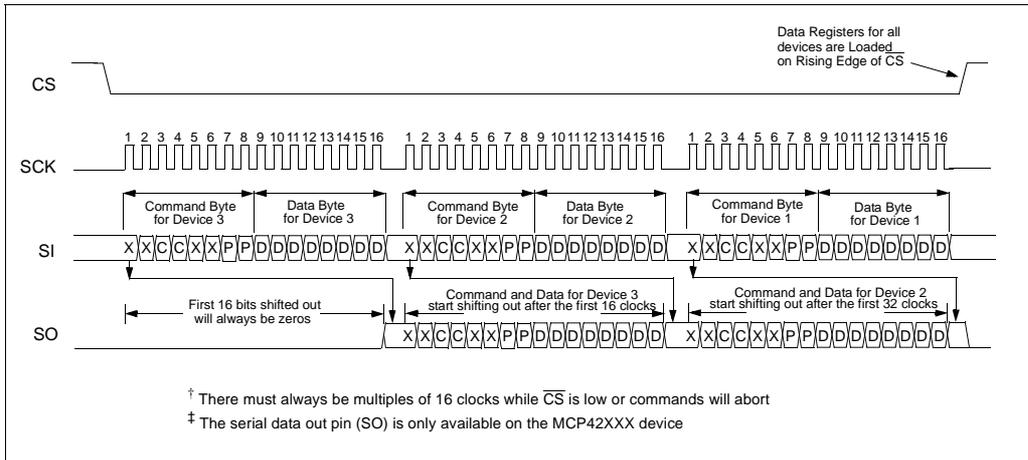
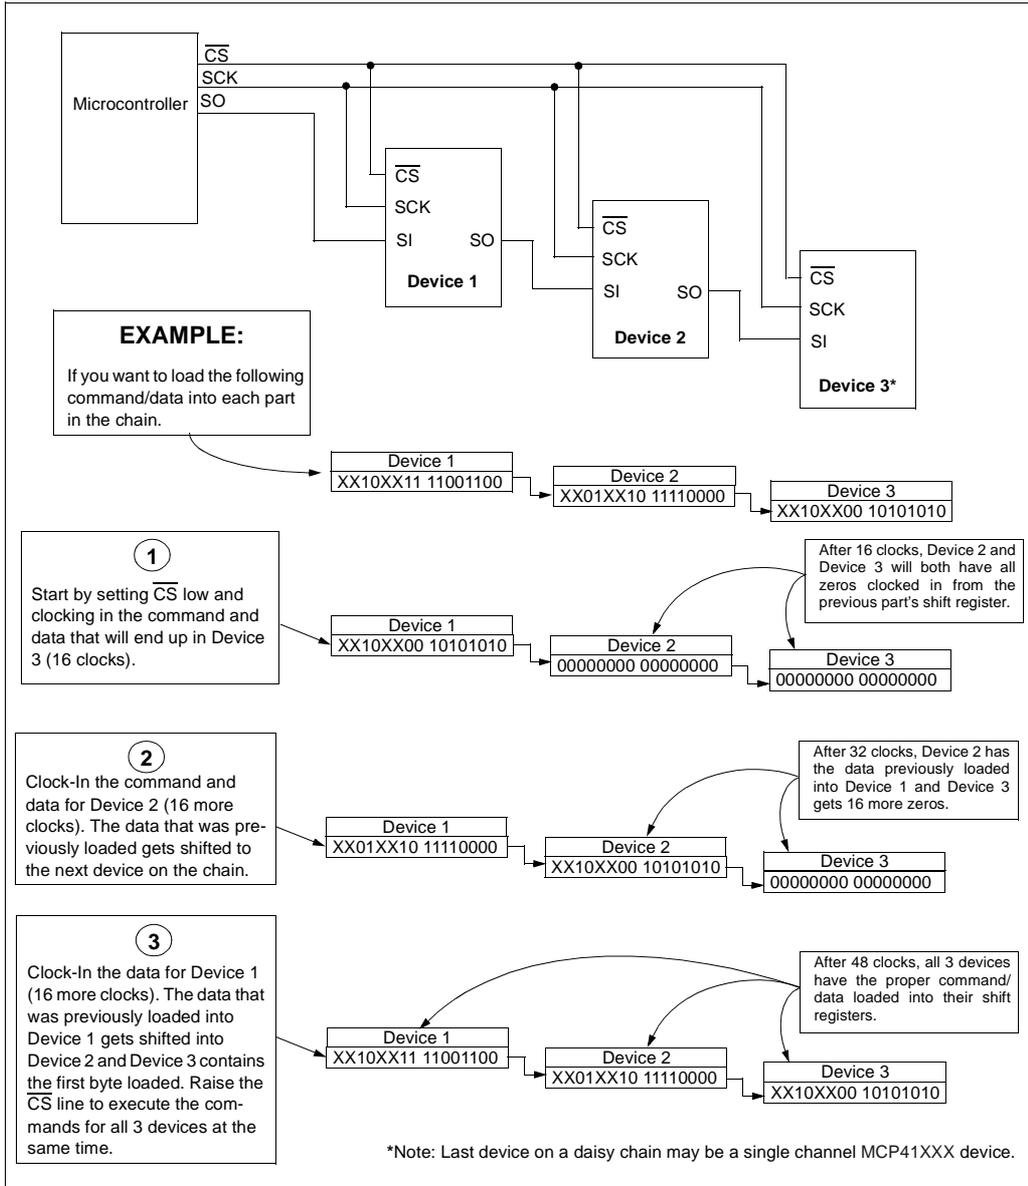

Figure 5-3: Timing Diagram for Daisy-Chain Configuration
Figure 5-4: Daisy-Chain Configuration
Multiple MCP42XXX devices can be connected in a daisy-chain configuration as shown in Figure 5-4, by connecting the SO pin from one device to the SI pin on the next device. The data on the SO pin is the output of the 16-bit shift register. The daisy-chain configuration allows the system designer to communicate with several devices without using a separate \overline{CS} line for each device. The example shows a daisy chain configuration with three devices, although any number of devices (with or without the same resistor values) can be configured this way. While it is not possible to use a MCP41XXX at the beginning or middle of a daisy-chain because it does not provide the serial data out (SO) pin, it is possible to use the device at the end of a chain. As shown in the timing diagram in Figure 5-3, data will be clocked out of the SO pin on the falling edge of the clock. The SO pin has a CMOS push-pull output and will drive low when \overline{CS} goes high. SO will not go to a high impedance state when \overline{CS} is held high.